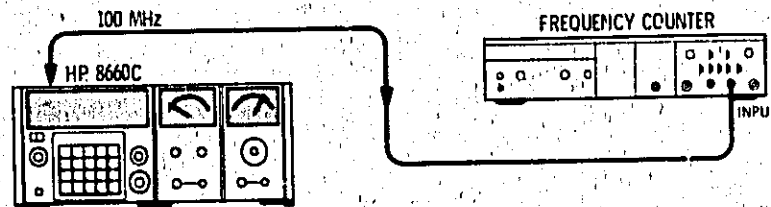

Figure 5-3. 100 MHz Adjustment Test Setup
- a. Connect the frequency counter to the 100 MHz output on the A4A4 assembly (see Figure 5-3).